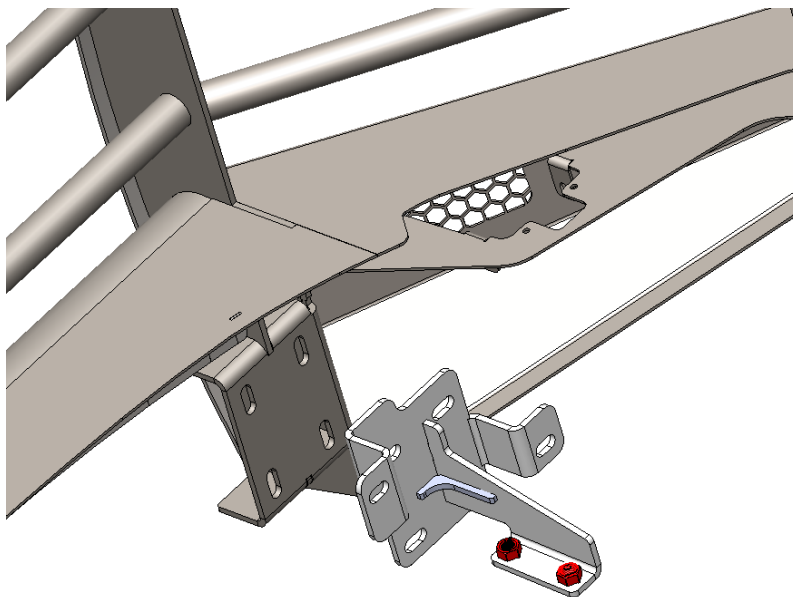

Figure 9
- B. With the help of at least two other people and a floor jack (recommended), carefully place bumper on truck matching the mounting faces of the bumper with bracket. Due to limited space between bracket and frame, it is recommended that bolts are inserted through slots toward truck (ref. fig. 9).**